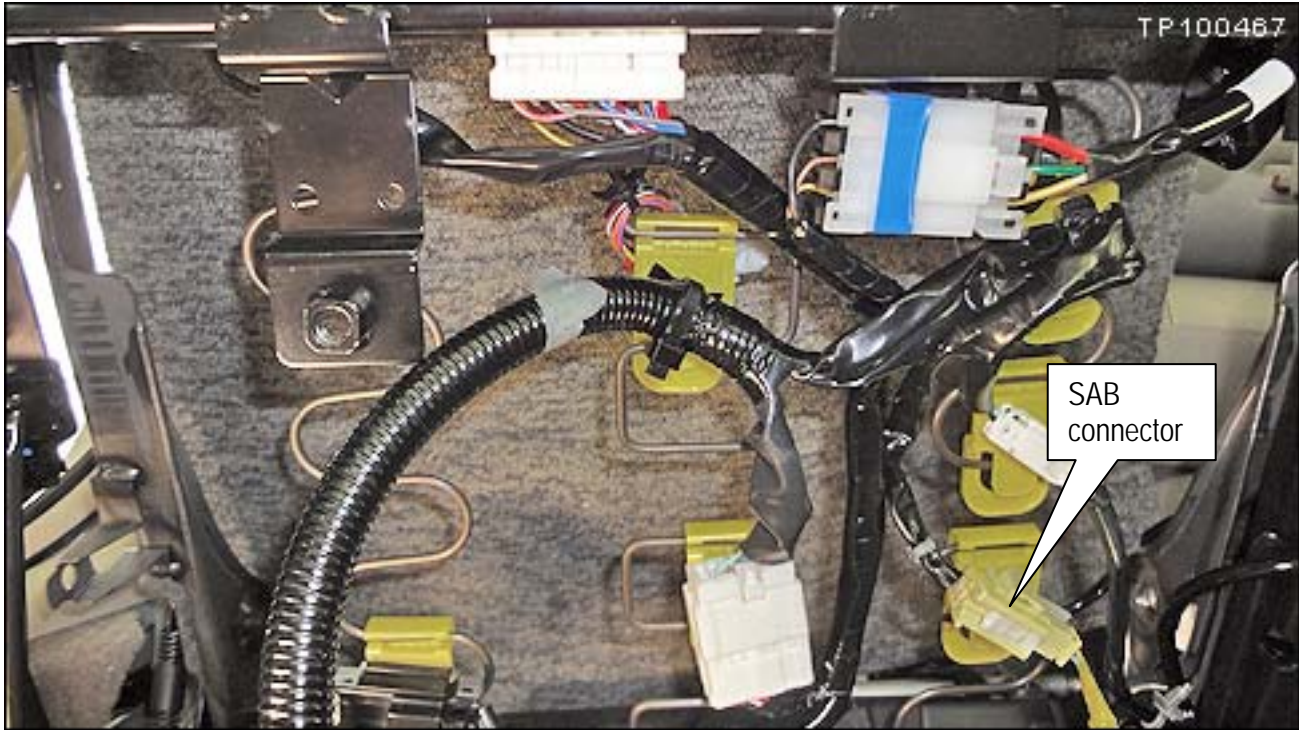

Figure 1c
1. Look under the seat and locate the Side Air Bag (SAB) connector shown in Figure 1c.